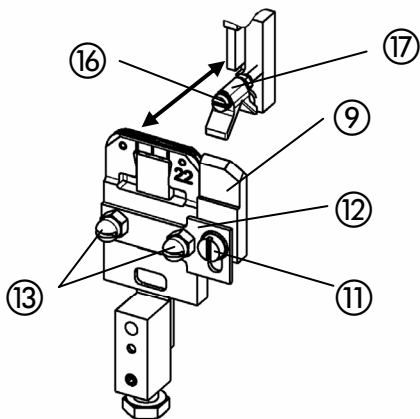

Fig. 19a
- Fig. 19a -
- Attach slide ⑨ with holding plate ⑫ by means of nuts or screws ⑬ to the clincher box.
- Loosen clamping screw ⑪.
- Move slide ⑨ in the oblong hole and set the height of the slide prism ⑨ to approx. 0.5 mm above the clincher box.
- Tighten clamping screw ⑪.